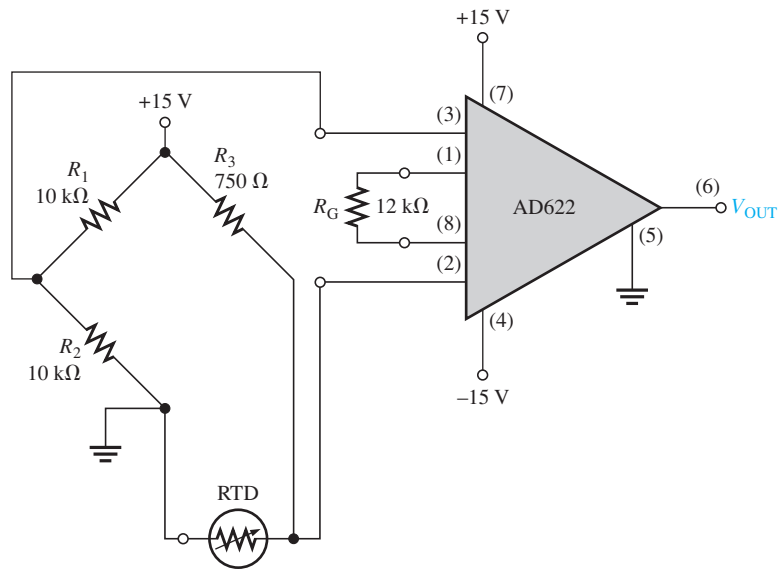

FIGURE 15–49
14. Determine the output voltage of the instrumentation amplifier in Figure 15–49 if the resistance of the RTD is $697\ \Omega$ at the temperature being measured.